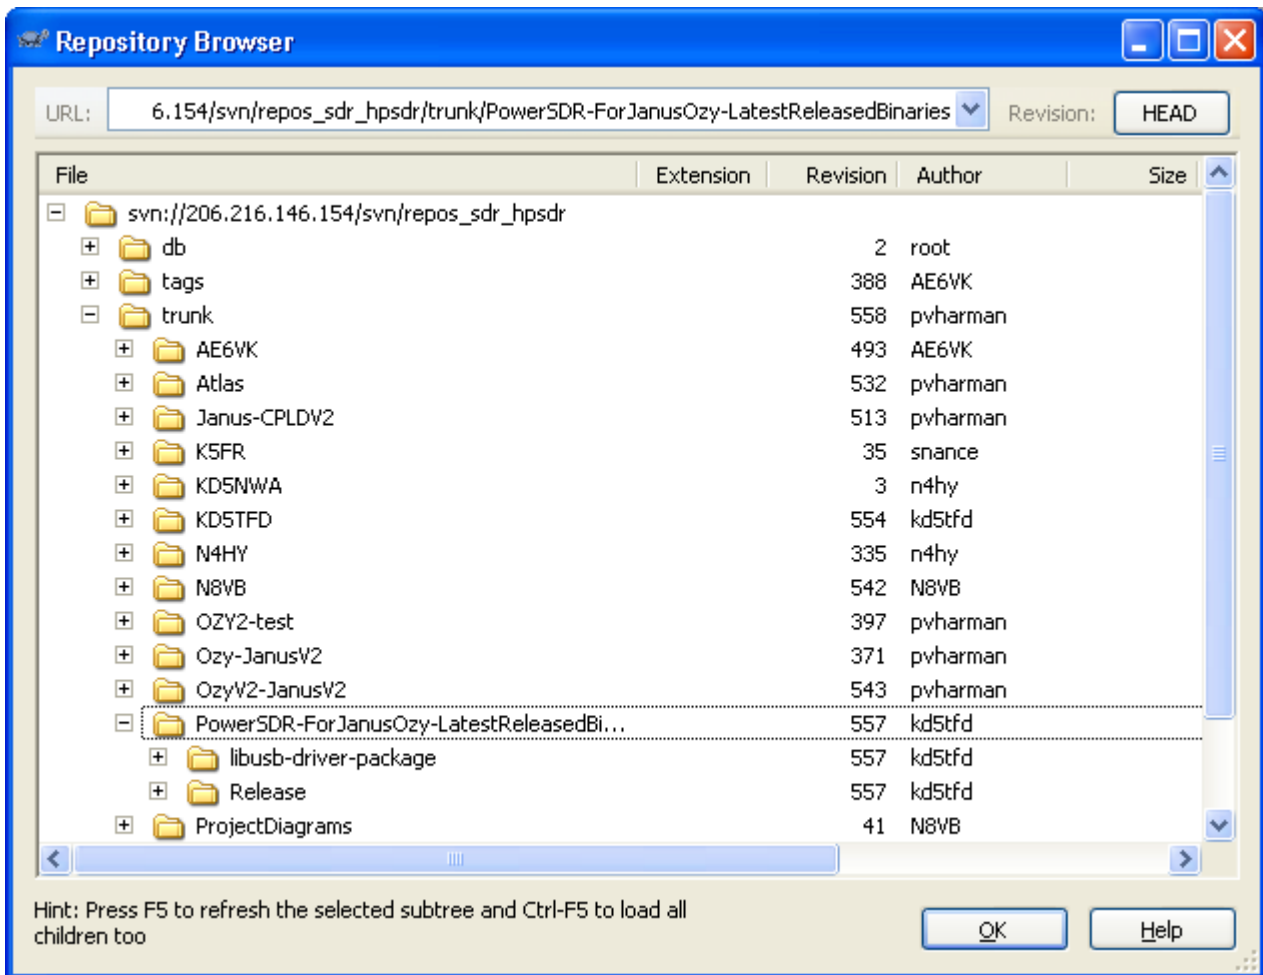

Fig 5: Tortoise SVN Repo-Browser Displaying Folders Containing LibUSB and PowerSDR Binaries
1. Download, using e.g. TortoiseSVN (<http://tortoisesvn.net/>), the LibUSB driver package from the HPSDR SVN system (see Fig 5) at:
2. Download the PowerSDR package from the HPSDR SVN system (see Fig 5) at: